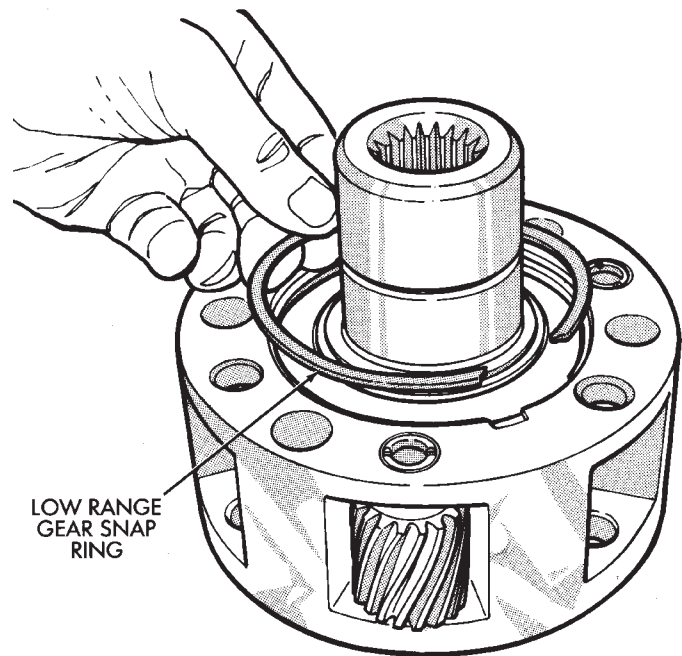

Fig. 45 Installing Low Range Gear Snap Ring
(12) Install low range gear snap ring (Fig. 45).